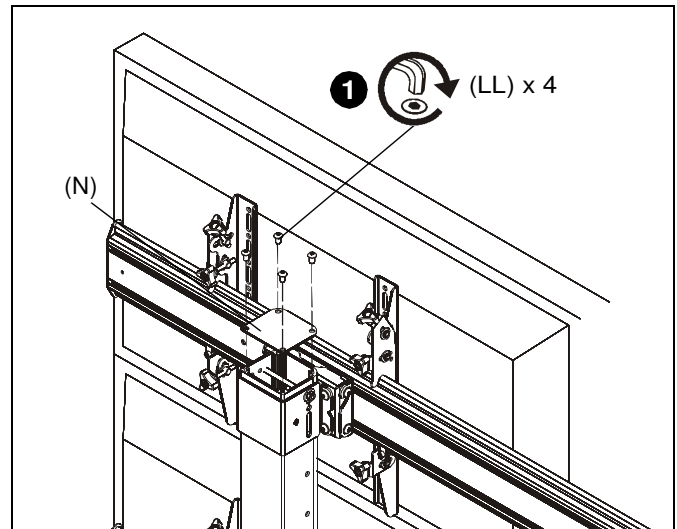

Figure 20
1. Use four 5/16-18 x 1/2" button head cap screws (LL) to install each column cap (N) to each column. (See Figure 20)